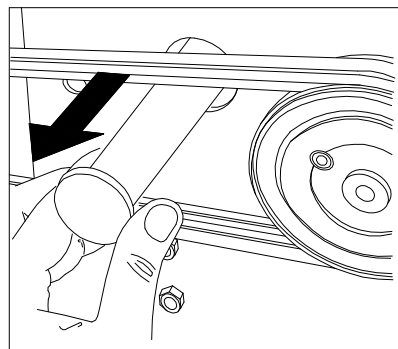

Fig. 23
- Remove the shaft, and note the position of the spacers separating the breaker bars (Fig. 23).